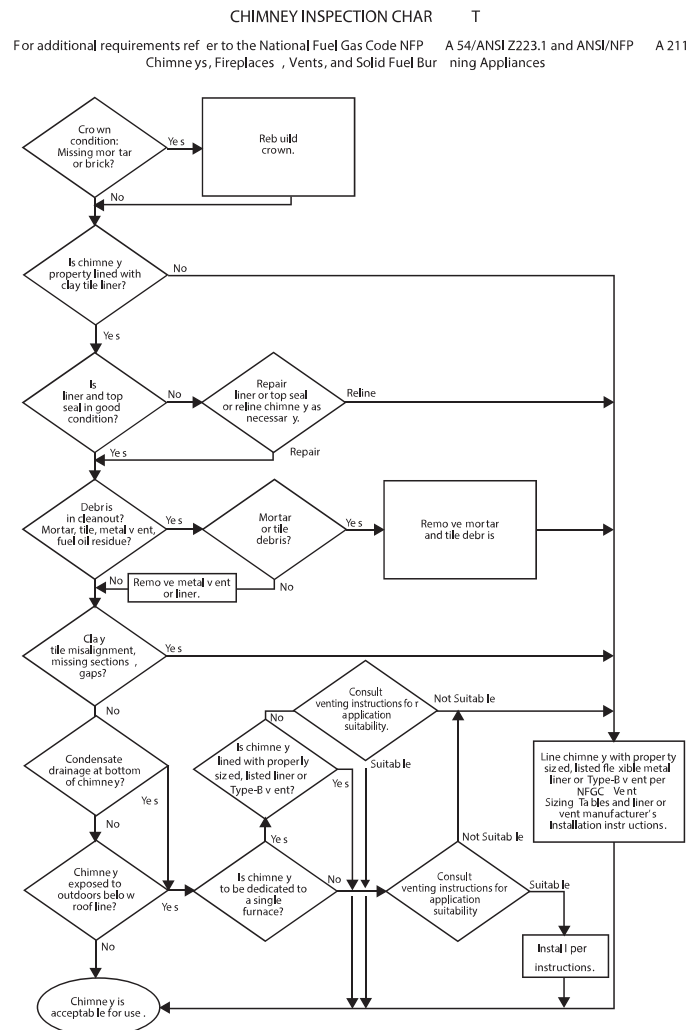

Fig. 30 – Chimney Inspection Chart
6. Do not vent this appliance into an unlined masonry chimney. Refer to Chimney Inspection Chart, Fig. 30.
Inspections before the sale and at the time of installation will determine the acceptability of the chimney or the need for repair and/or (re)lining. Refer to the Fig. 30 to perform a chimney inspection. If the inspection of a previously used tile-lined chimney: